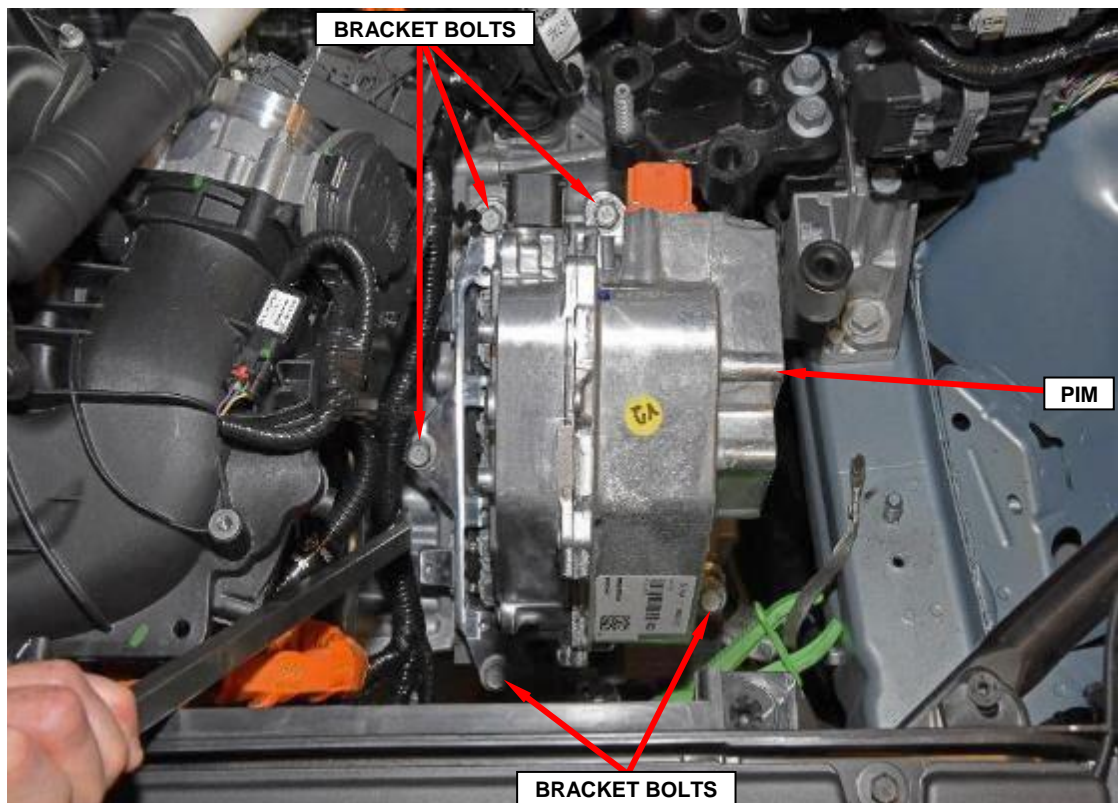

Figure 36 – PIM to Transmission Bolts
- 64. Remove and save the five bolts securing the PIM to the transmission housing (Figure 36).
- 65. Remove and save the PIM from the transmission housing (Figure 36).